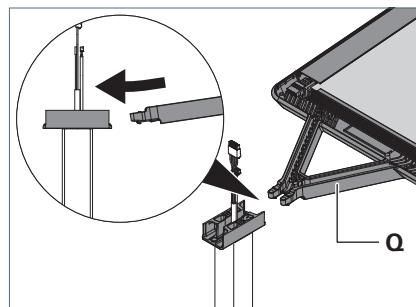

Fig. 6: Mounting luminaire head 1.
- ▶ Insert the supporting arm **Q** of the luminaire head tilted downwards slightly to the stop into the adapter, see Fig. 6.